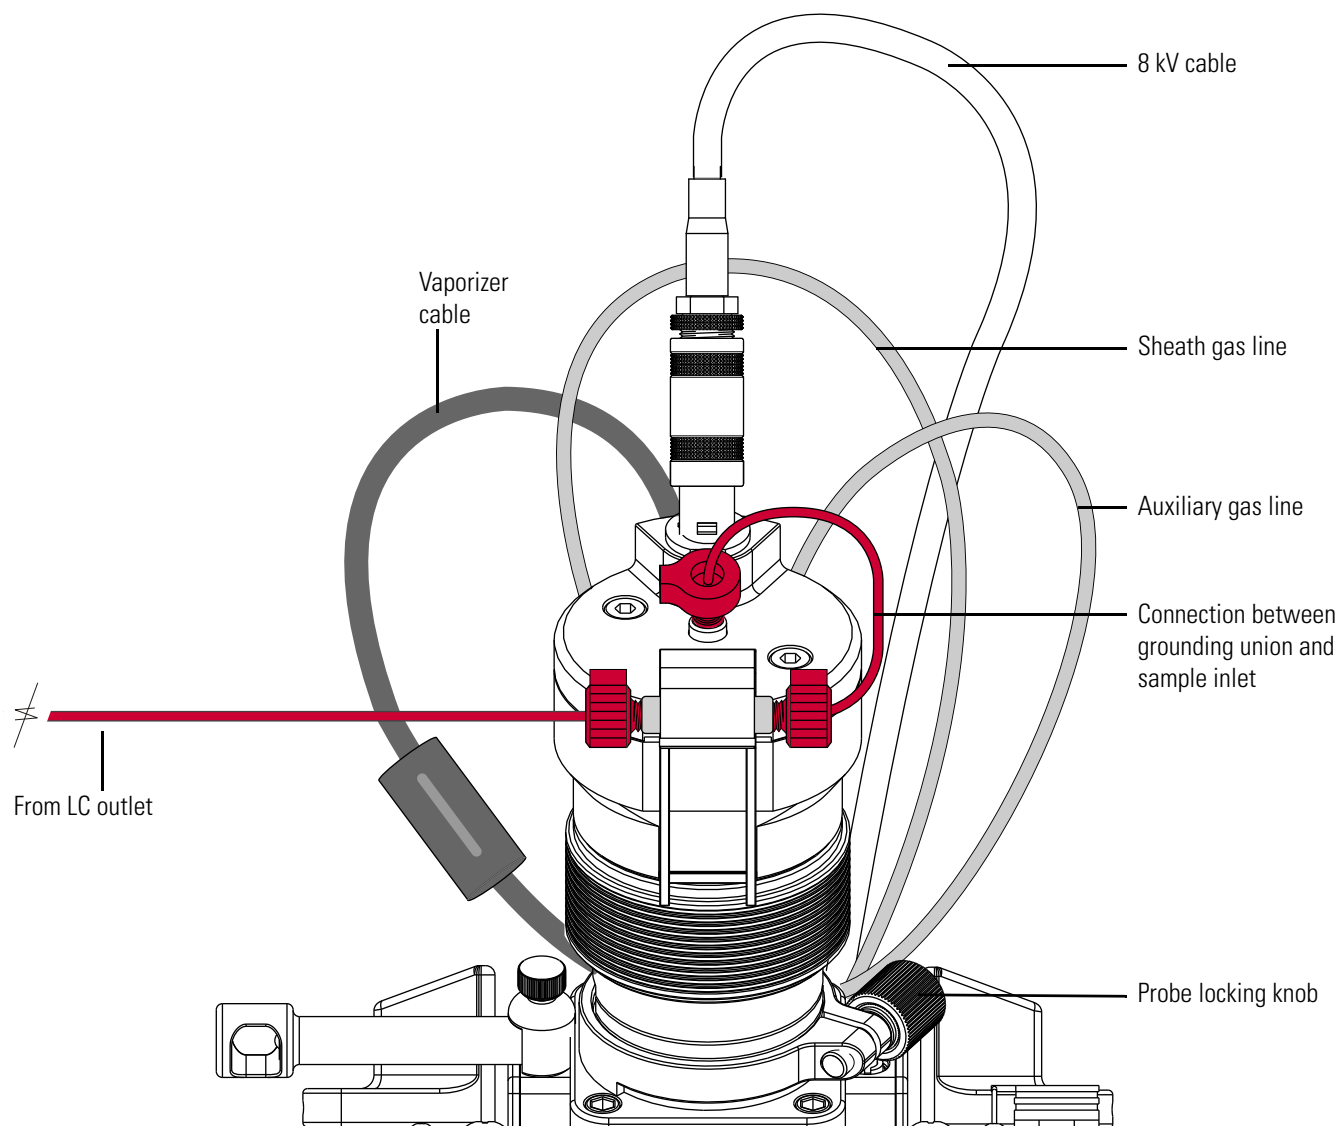

Figure 8-15. Connections to the HESI-II probe (front view)
2. If the mass spectrometer is connected to an LC system, switch off the solvent flow from the LC pump, and then disconnect the tubing from the left side of the HESI-II probe grounding union (Figure 8-15).
6. Unlock the probe locking ring by turning the probe locking knob (Figure 8-15 on page 8-31) counterclockwise.